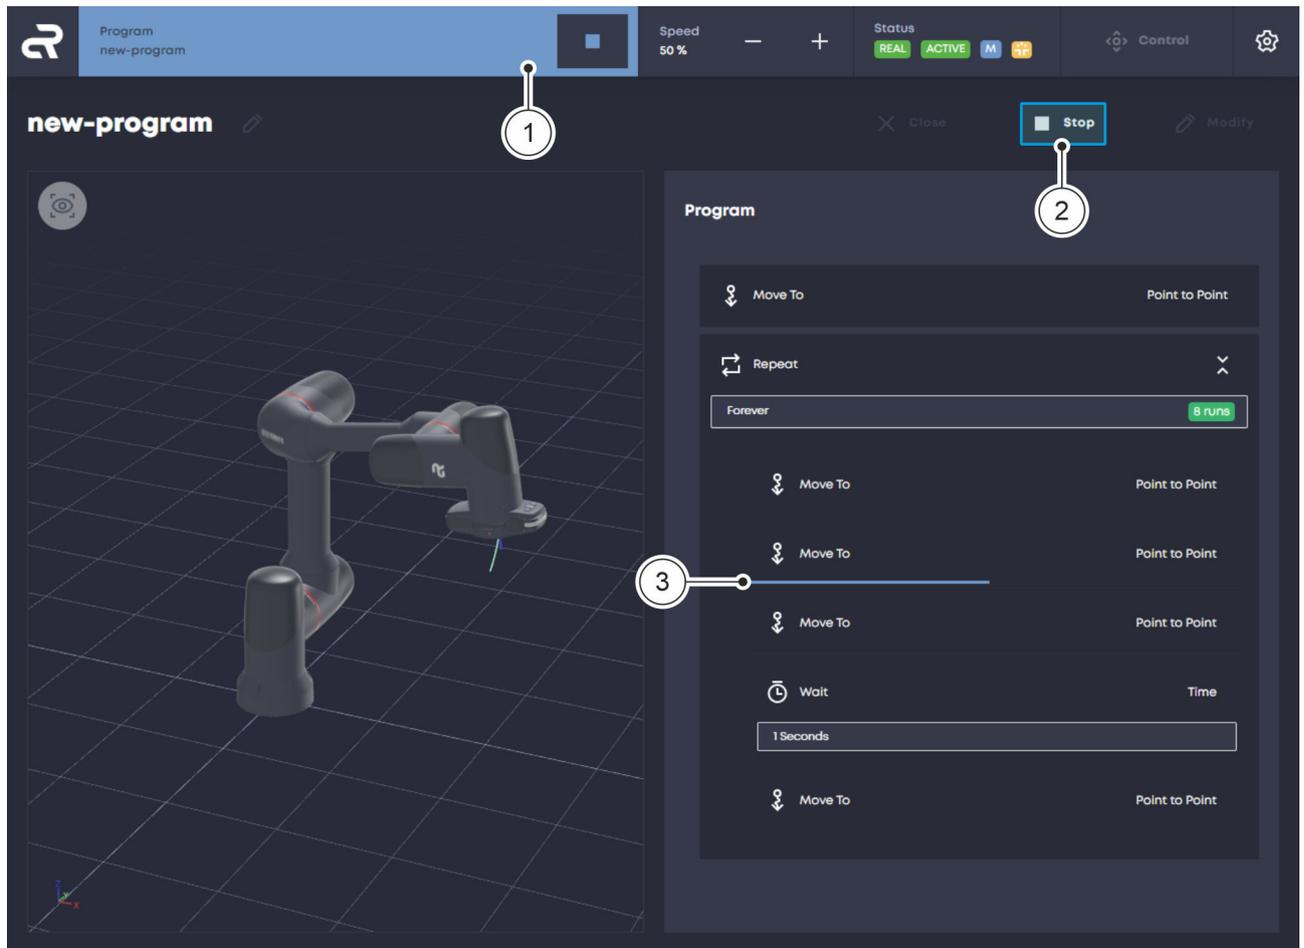

Fig. 30 Stopping a program
04. To stop the program, click the Stop button in the navigation bar Fig. 30 / (1) or the 'Stop' button in the 'Program' menu Fig. 30 / (2).
The command sequence that is currently running is displayed by a light blue timeline Fig. 30 / (3).